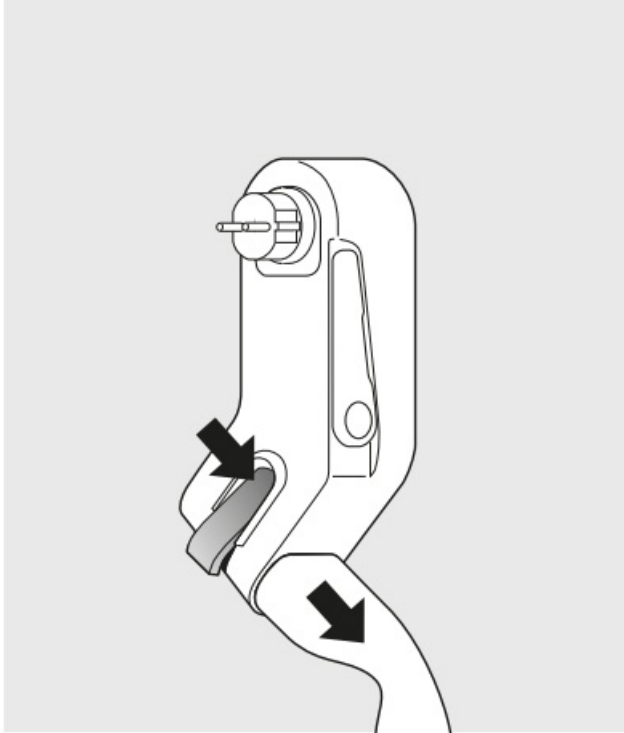

Fig. 3: Unlocking the type 2 outlet
2. Unplug the Mobility Dock (A) from the wall socket
3. Unlock (D) the wall support (E) and bring it into the starting position
4. If necessary, unlock the charging plug with the orange lever (B) and unplug it (**see fig. 3**)